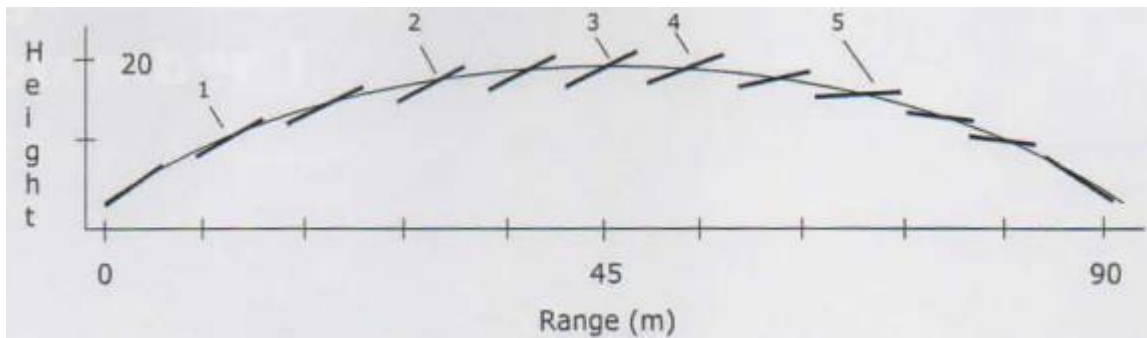

Fig.29: Javelin trajectory [A. Maheras, 2013]
2. Undertake the effect of head wing on Javelin throw range (Fig. 29).